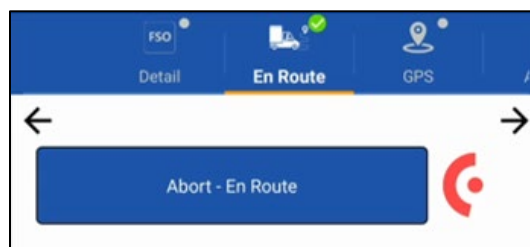

Figure 31: Abort En Route
1. Tap **En Route**, as shown in Figure 31, and select your estimated time of arrival (ETA) to the site from the *Select ETA* drop-down.